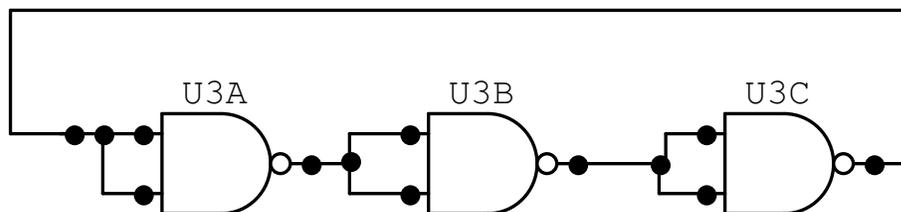

Figure 4.2: Oscillating Ring Circuit using Cascaded NAND Gates
- The circuit in Figure 4.2 interconnects NAND gates A, B, C in an Oscillating Ring, under the assumption that each gate has Propagation Delay Time T_{PD} and 0 ns Rise and Fall times T_R and T_F .